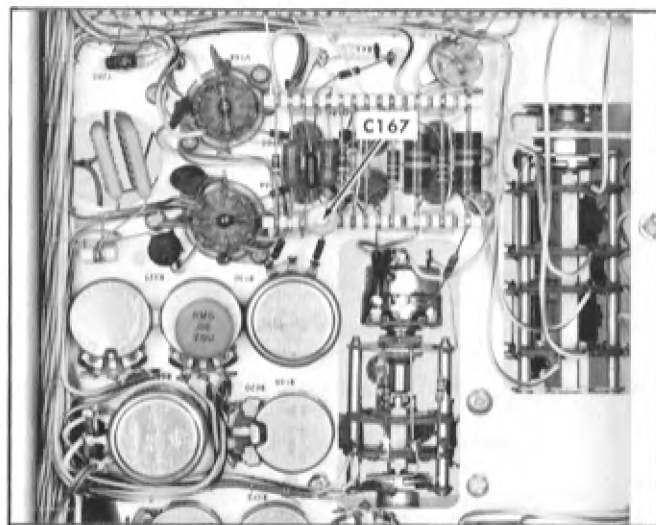

Fig. 6-41. Location of C167.
d. Adjust C167 (see Fig. 6-41) for optimum flat top, i.e., no tilt of bar top, of the bar portion of the pulse and bar VIT signal.